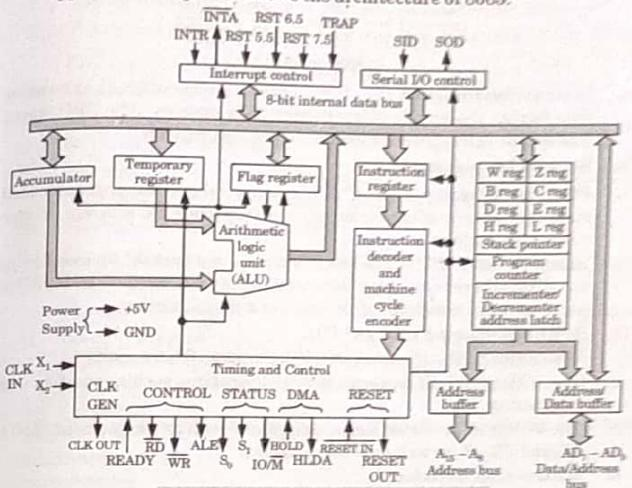

Fig. 2.3.1. Internal architecture of 8085.
B. **Internal architecture or functional block diagram** : The 8085 is an 8-bit, general-purpose microprocessor that is ideally suited to many applications. Fig. 2.3.1 shows the architecture of 8085.